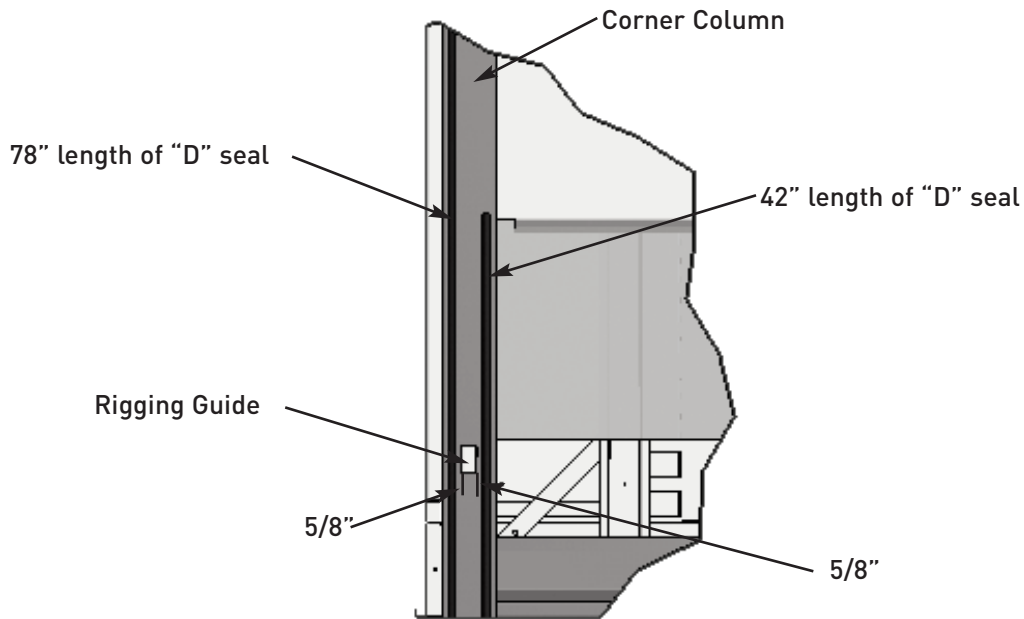

Figure 14: Detail of Corner Column
- Before rigging the coil modules, wipe the moisture and dirt from the corner columns and apply “D” seals (BAC part number – 271665P) at two (2) locations on each coil module as shown in Figure 14.